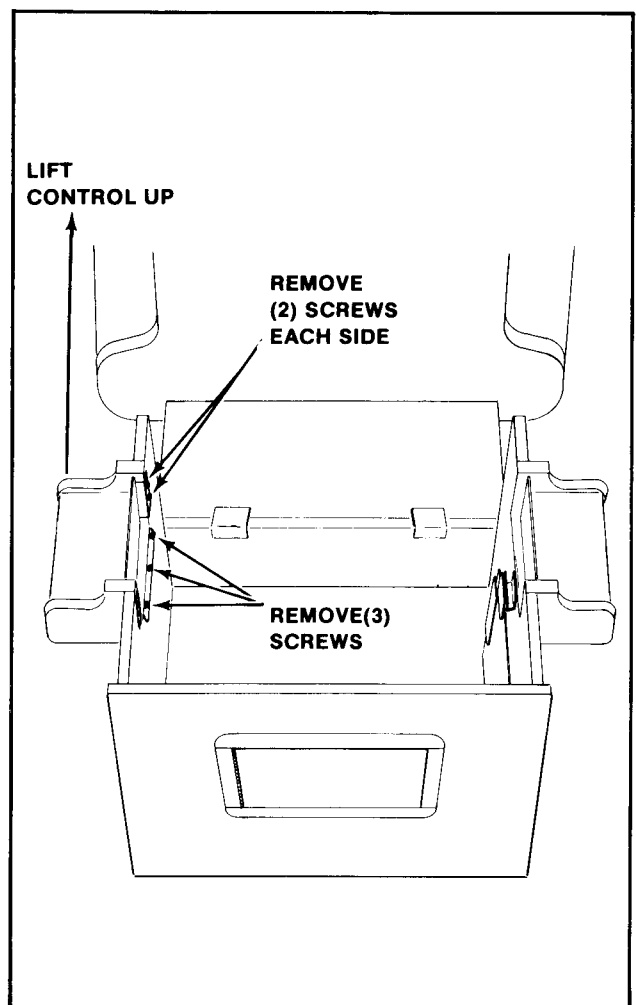

Figure 4-4 Removing the Control Panel — Cocktail
**3. COCKTAIL TABLE MODEL:** See Figure 4-4.
Remove the screws which secure the control panel in place. See Figure 4-4.